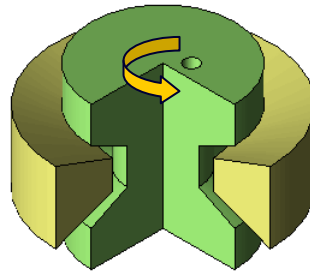

Fig. 5 Rotation Motion Model
• **Applicable models:** Geometries with no rotational or translational limitations (Figs. 5 and 6)